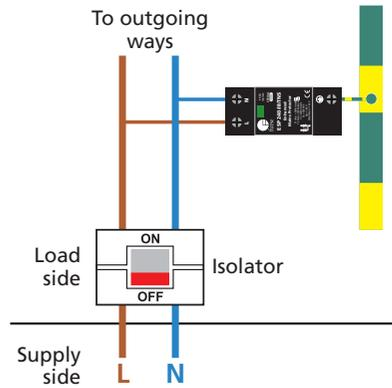

Figure 1: ESP 240/XXX mounted within a distribution board connected to the incoming supply on the load side (ie downstream) of the isolator.
ESP 240/XXX Protectors need to be installed very close to the power supply to be protected. The ESP 240/XXX Protector will be installed at a main power distribution board, either inside it (Figure 1) or right next to it in an enclosure (Figure 2).
- (i) on the load side of the incoming isolator (Figure 1).